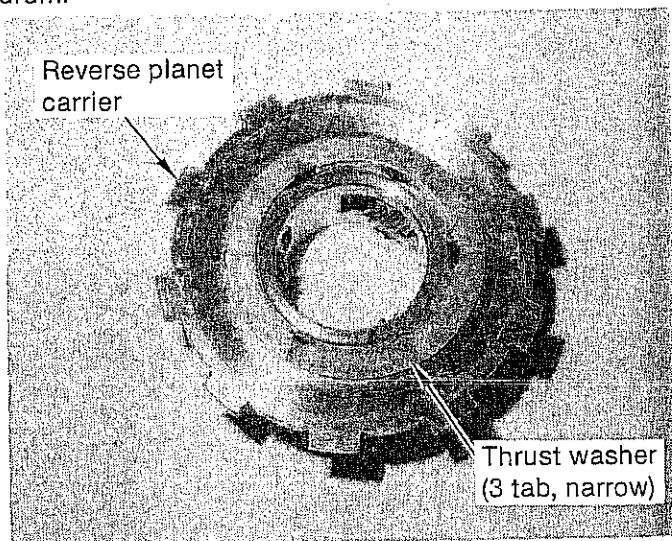

FIGURE 57
STEP 12. Install thrust washer on front and rear of reverse planet carrier. (See Fig. 57) Use grease to retain them. Note: These washers are different. The **wide** thrust washer is installed on the **rear** of the carrier. Install reverse planet carrier into transmission engaging ears on planetary with slots in low-reverse drum.